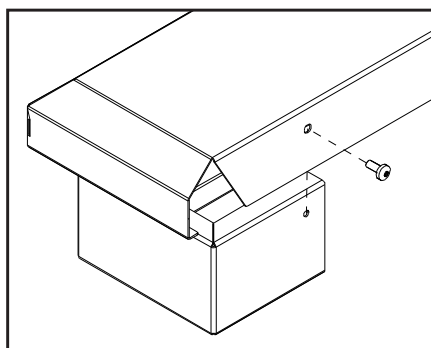

Figure 37: Installing Base Shelf onto Riser.
3. If installing with riser(s) the Base Shelf is to be fastened to the riser(s) with one T-20 screw at each end of the back (see Figure 37).